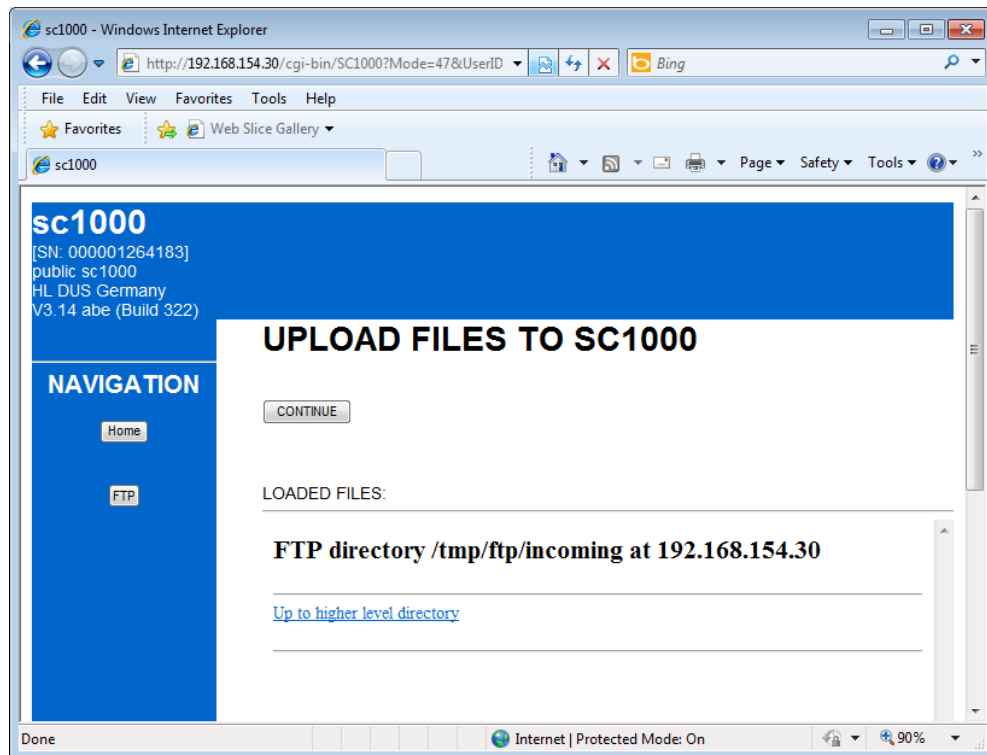

figure6: sc1000 “UPLOAD FILES” screen
- Here press the “Back” button (top left “←”) to get back to (figure6: sc1000 “UPLOAD FILES” screen).
- Press the "CONTINUE" button in the Internet Explorer window (figure6: sc1000 "UPLOAD FILES" screen).